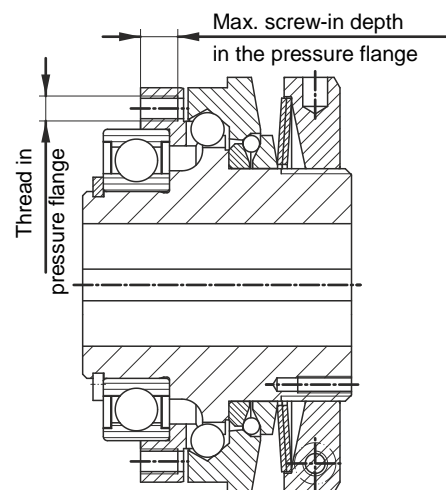

Fig. 4
Please observe the maximum permitted screw-in depth in the pressure flange (2) as well as the connection dimensions "a" and "e" for the output elements, see Figs. 4 or 5 and Table 14.